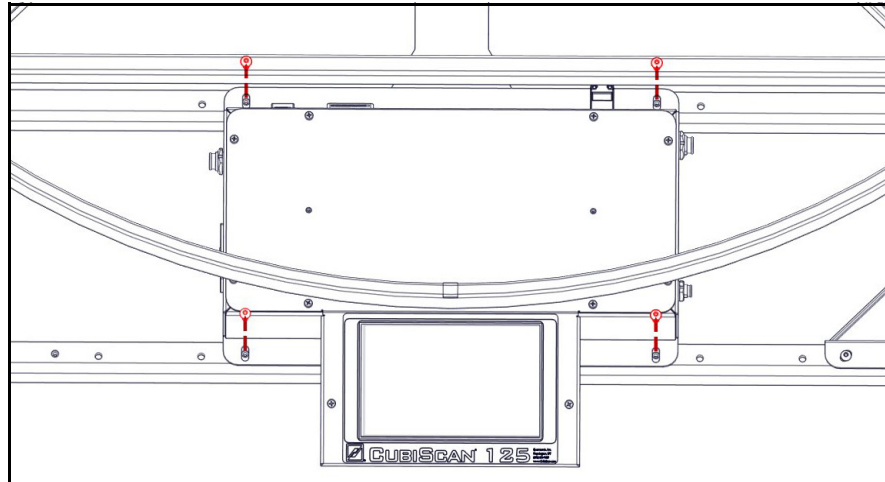

Figure 57
6. Remove the four Allen head screws on the corners of the control box mounting plate (see Figure 57 above) using a 1/8" Allen wrench. The touchscreen is in the center of the mounting plate, and the mounting plate is attached to the front of the CubiScan 125 base.